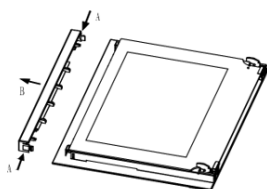

Fig.1
1. Press the button on left and right side of door, take out top rail. (Fig.1)